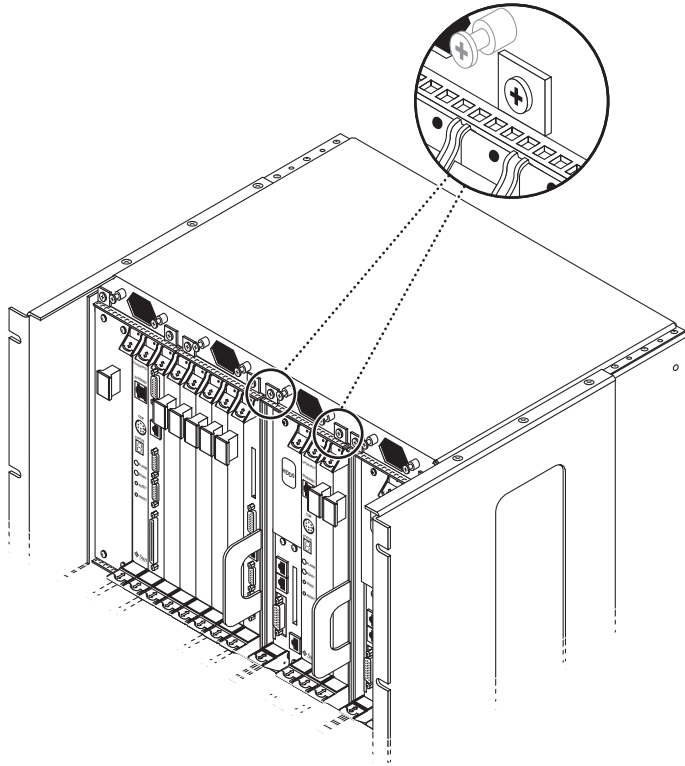

FIGURE 3-4 Loosening the Screws at the Top of a Netra ct 400 Server
- If you are removing a Netra ct 400 server, loosen the *two* black captive screws at the top of the server (FIGURE 3-4).